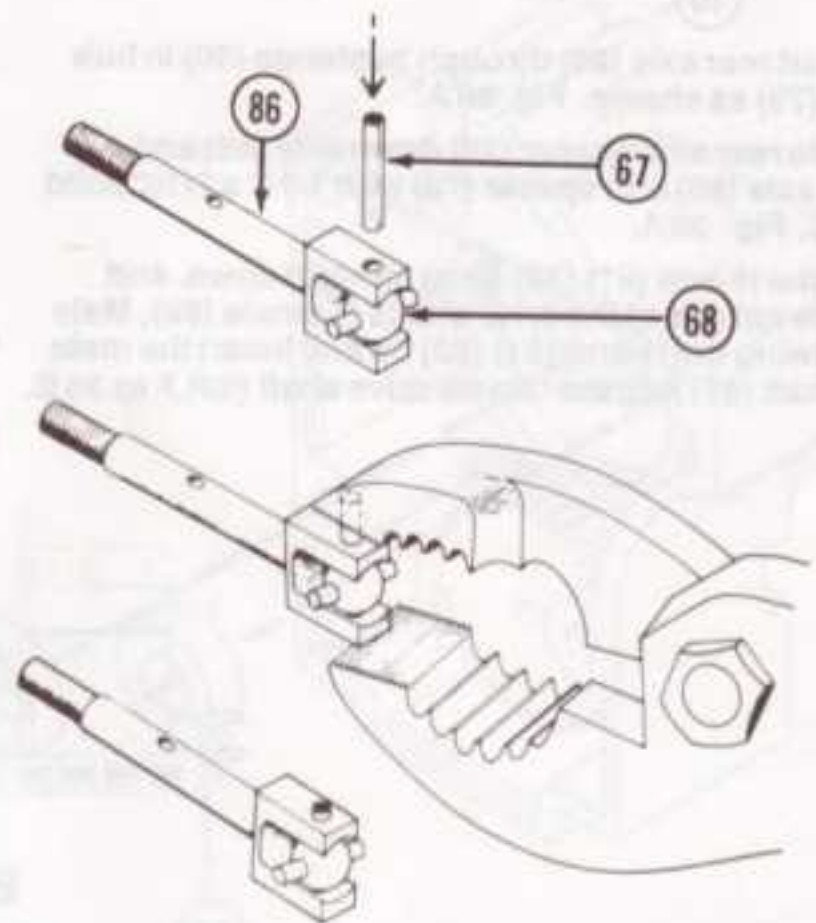

FIG. 34
11. Place universal pivot joint (68) in rear axle (86) so that cross pin holes are aligned with holes in rear axle (86) Fig. 34.
12. Using pliers, push a 3/32 x 1/2" spirol pin (67) through rear axle (86) U-joint yoke and through universal pivot joint (68) until pin (67) extends evenly out of both sides of rear axle (86) Fig. 34.